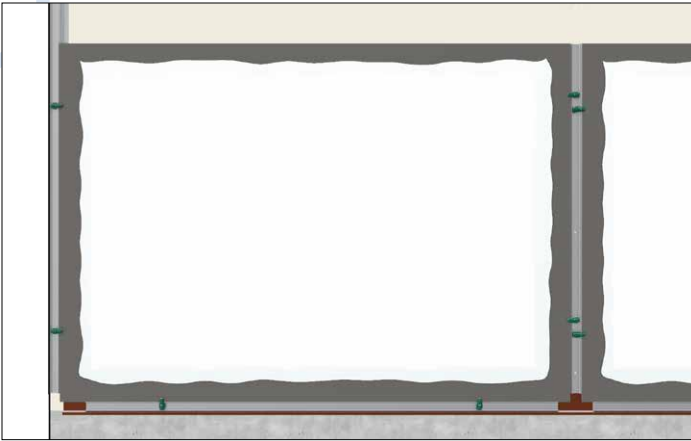

Figure 20.1
15. Set the panel onto the panel platforms using the provided suction cups to assist. Temporarily hold panel in place using QuickPanel® QuickClips™. Repeat along the same course. (Figure 20.1)